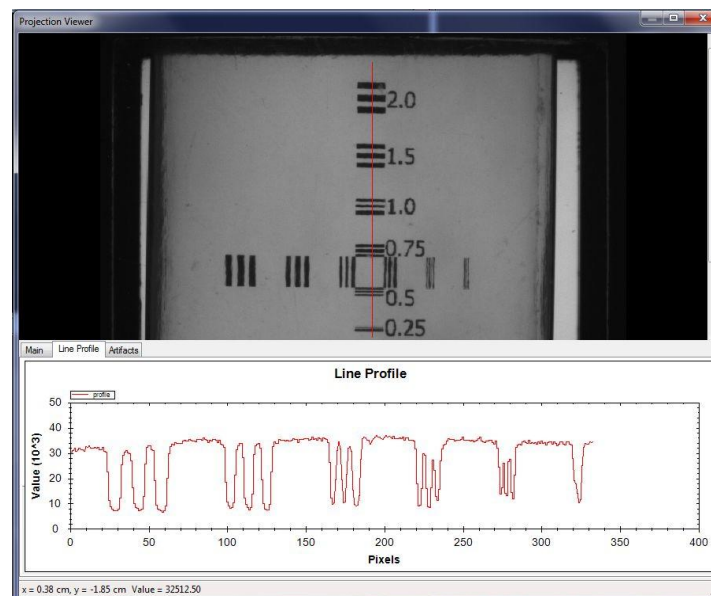

Figure 5: Line Profile, Projection Viewer
14. Select the **Line Profile** tool (from the bottom tab) and draw a line profile (click and drag mouse) that intersects the lines pairs, as shown by the red line in Figure 5.